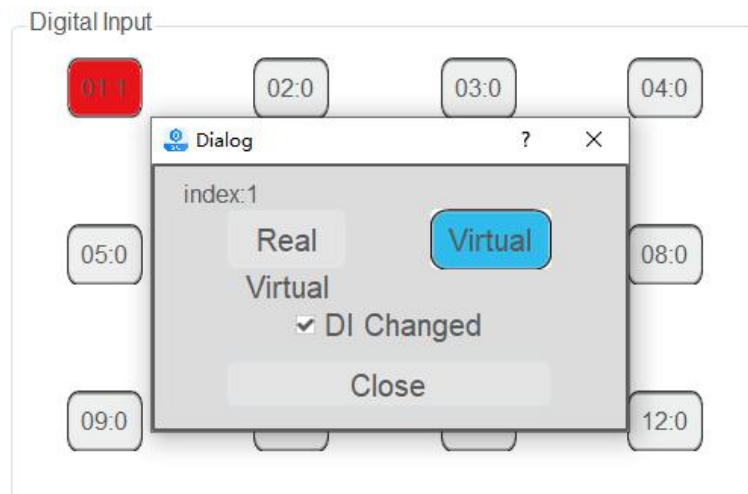

Figure 3.33 Simulation
- Simulation: Simulate the digital input for debugging and running program, as shown in Figure 3.33.